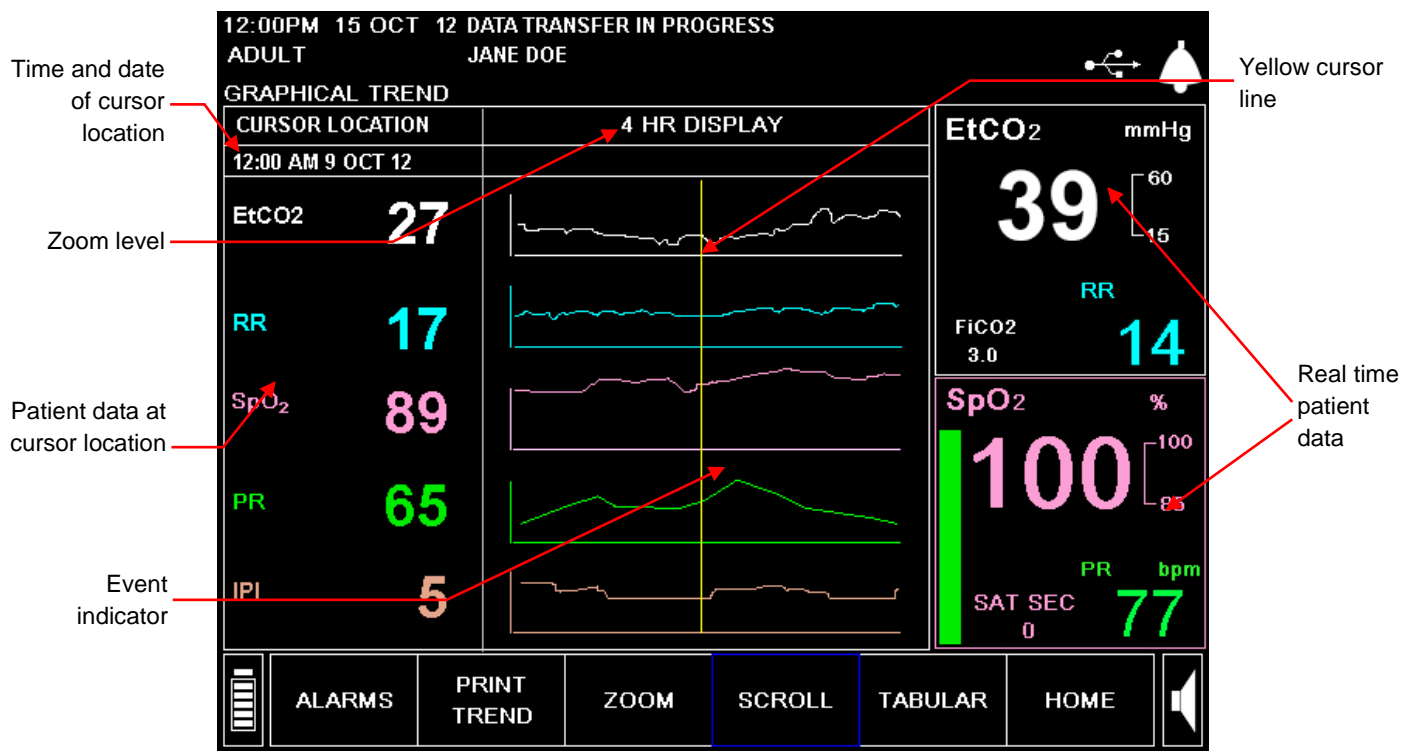

Figure 31 - Graphical Trend Display
1. From the Home screen, use the control knob to select **TREND** from the soft buttons in the menu bar at the bottom of the screen. The Graphical Trend screen, seen in Figure 31 - Graphical Trend Display, below, is shown.
- **Yellow cursor line:** The vertical yellow line extends through all four graphs and is movable with the control knob when the **SCROLL** option is selected. The cursor line shows the current location in the trend data, with the exact date and time listed under the **CURSOR LOCATION** heading near the top left of the screen as shown in Figure 31 - Graphical Trend Display on page 84.
To find an event or alarm occurrence, scroll the graphic display to look for event and alarm markers as shown above in Figure 31 - Graphical Trend Display on page 84. Place the yellow cursor line on the red alarm marker, then exit the scroll mode by clicking the control knob. When you zoom to a different time display, the cursor will appear in the middle of the graphical screen at the appropriate time that it marked on the previous screen.